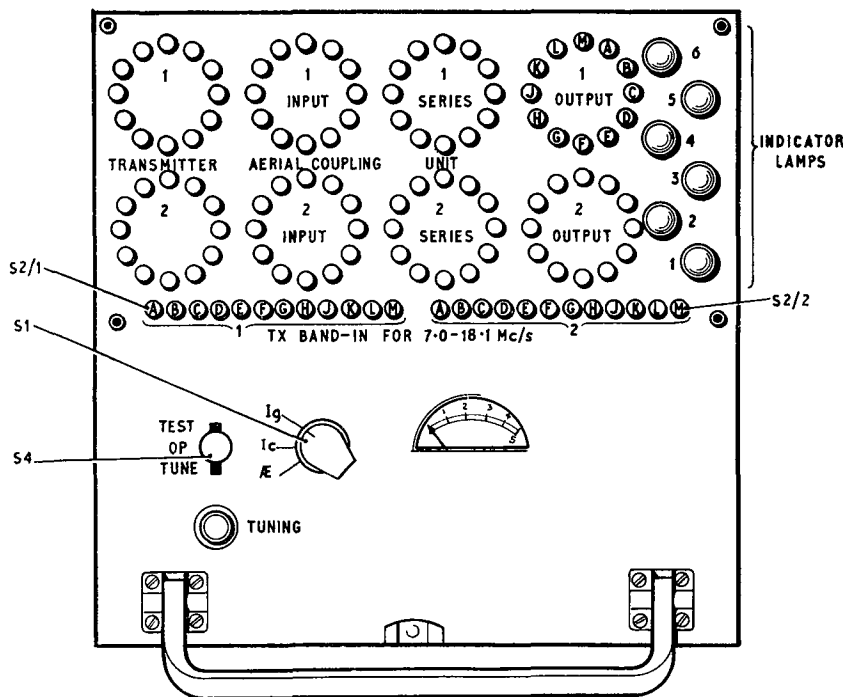

Fig. 1. Control unit Type 4243—front panel
3. An illustration of the front panel of the control and drive unit is given in fig. 1. The panel is fitted with controls which in conjunction with the remote control unit can be used to set up channels on any frequency in the band without access to the transmitter or the aerial tuning unit. These channels can then be selected at the remote control unit.